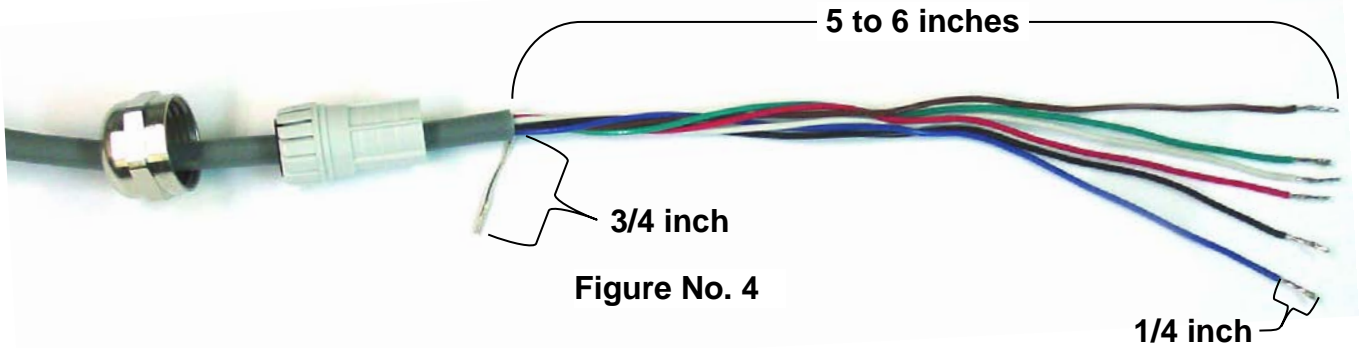

Figure No. 4
4. With the load cell cable routed into the enclosure, refer to Figure No. 4 and then remove approximately 5 to 6 inches of the cable outer insulating jacket exposing the internal wires.
4. Referring to Figure No. 4, remove 3 inches (not 5 to 6 inches) of the outer insulation jacket
4. Referring to Figure No. 4, remove 2 inches (not 5 to 6 inches) of the outer insulation jacket